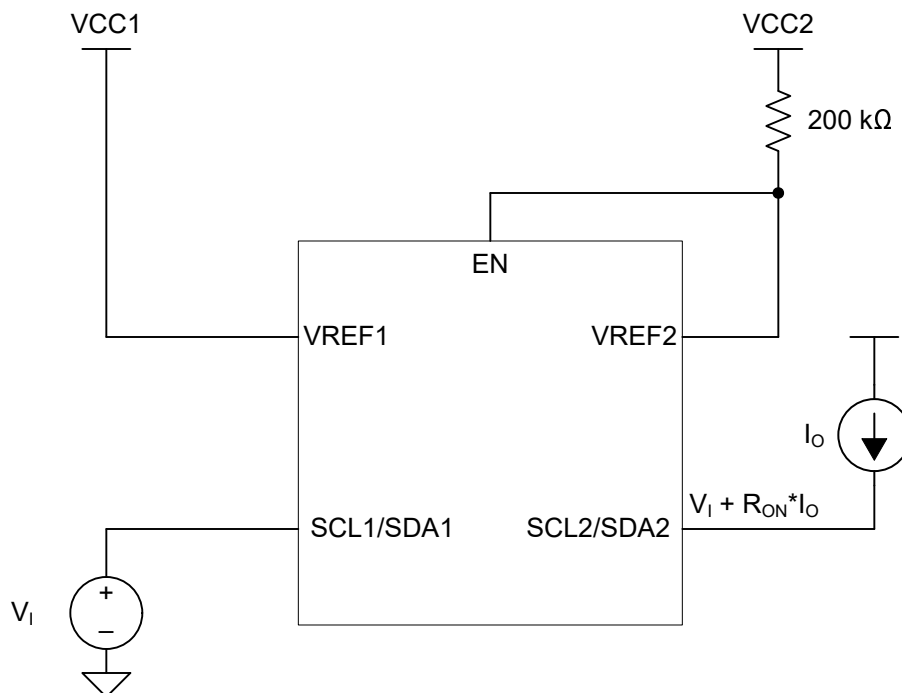

図 6-3. Application Setup for  $R_{ON}$  Delay
(5) Measured in application connected current source configuration only. See Figure 6-3